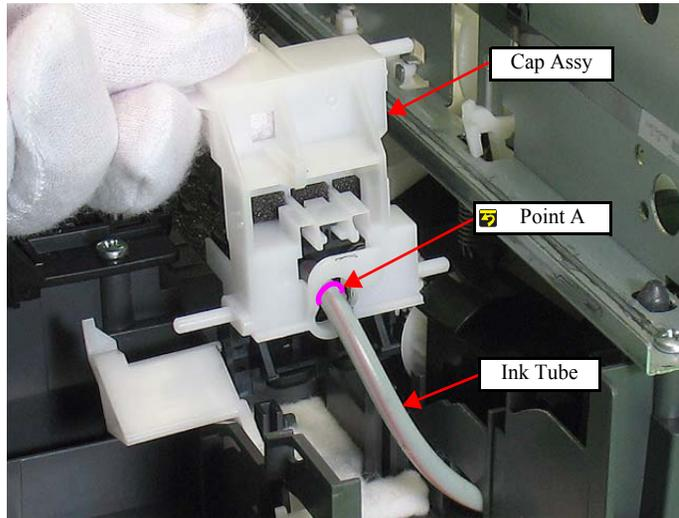
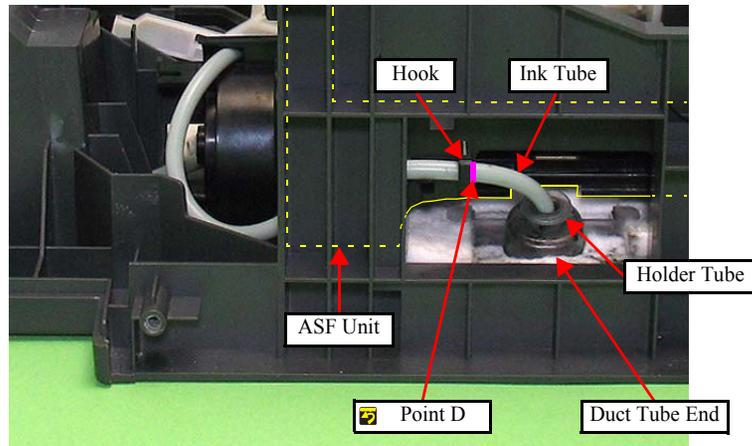
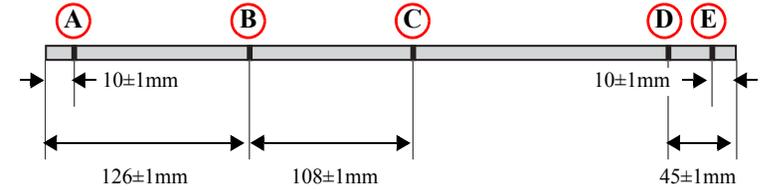

Figure 4-53. Removing the Cap Assy (4)
Figure 4-54. Removing the Pump Assy (1)
Figure 4-64. Marking on the Ink Tube
- Insert point A of the tube carefully into the Cap Assy not to let it be pressed. (See Fig.4-53, Fig.4-64)
- Align point D with the right edge of the hook on the ASF Unit, then secure it. (See Fig.4-54, Fig.4-64)
- Insert the Holder Tube up to point E as shown below, and insert the holder into the Duct Tube End. (See Fig.4-54, Fig.4-64)